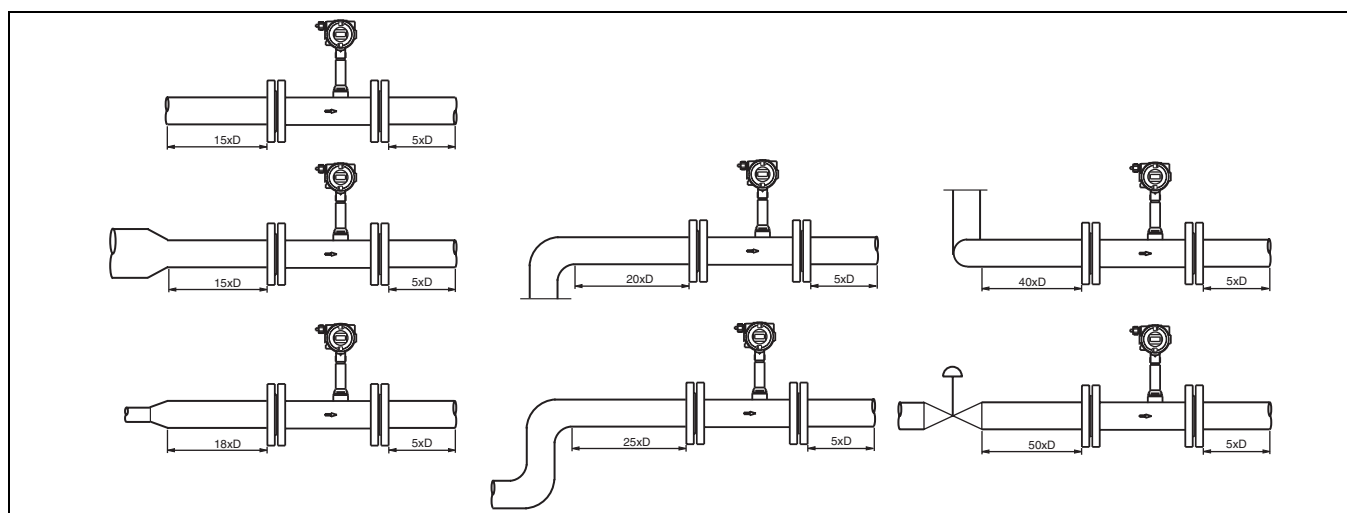

Fig. 11: Recommended In- and Outlet Straight Sections
- the recommended in- and outlet straight sections are provided (Fig. 11 ).